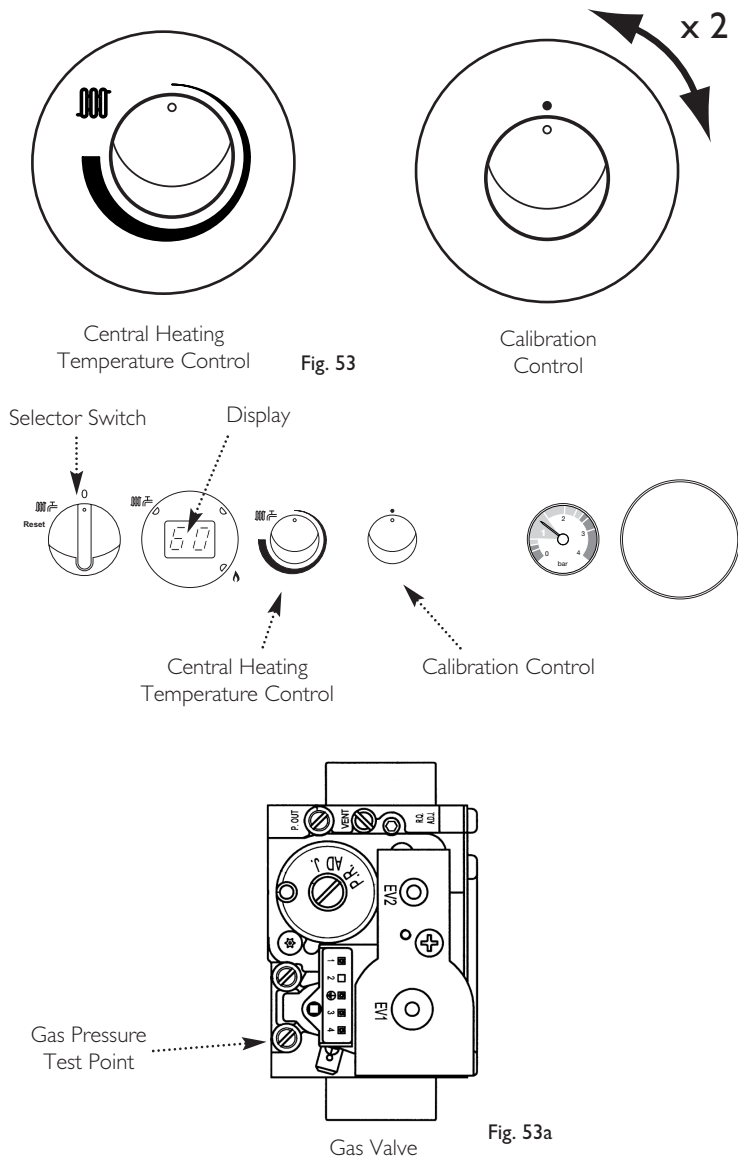

Fig. 53a
6. With the boiler operating in the maximum rate condition check that the operational (working) gas pressure at the inlet gas pressure test point (Fig. 53a) is in accordance with B.S. 6798 & B.S. 6891.